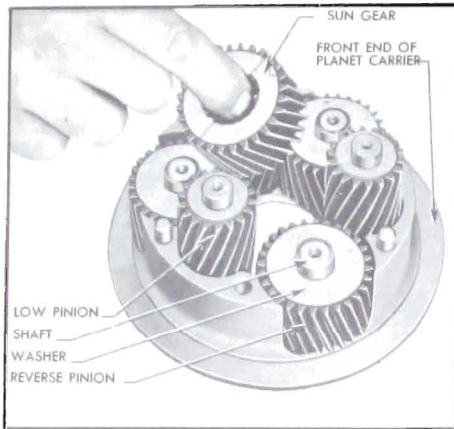

Figure 5-103—Removal of Sun Gear and Planet Pinions
4. Remove the sun gear thrust washer, which may be either on sun gear or stuck in rear end of carrier. Remove reverse sun gear. See Figure 5-103.
6. Remove the 3 low planet pinion assemblies, each consisting of a pinion, shaft, and bearing rollers retained at each end of pinion by steel thrust washers. See Figure 5-103. A retaining ring snapped into a groove in shaft will hold the lower thrust washer in place as shaft is tapped out of carrier. The shaft is prevented from turning in carrier by a $3/32$ " steel ball imbedded in end of shaft. Do not lose the steel ball.
2. Make sure that steel ball is embedded in each shaft to prevent turning in carrier, then install planet pinion assemblies in front end of planet carrier, using care to engage the steel balls in the notches in carrier. See Figure 5-103.